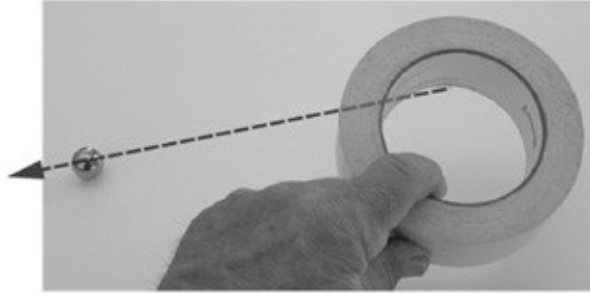

Figure 12-3 *Free marble moving along a straight path.*
3. Quickly lift the masking tape roll and observe the path the marble takes when it's no longer constrained by the tape, as Figure 12-3 shows.